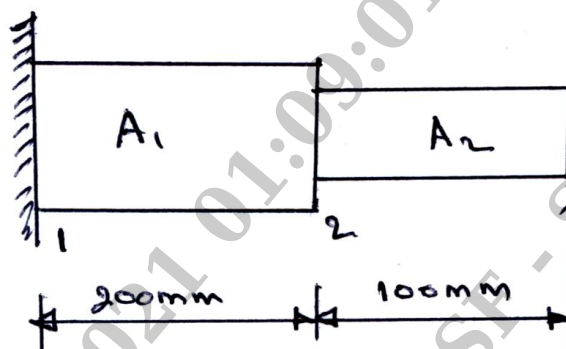

Fig.Q10
- 10 Evaluate eigen vectors and eigen values for the stepped bar shown in Fig.Q10. Take  $E = 200 \text{ GPa}$  specific weight  $7850 \text{ kg/m}^3$ . Draw mode shapes. Take  $A_1 = 400 \text{ mm}^2$  and  $A_2 = 200 \text{ mm}^2$ .